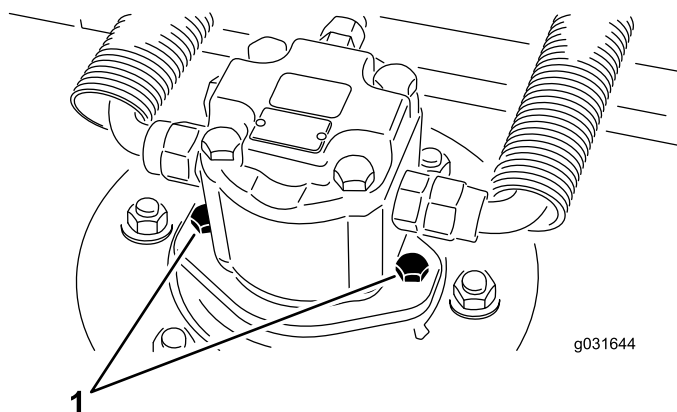

Figure 65
2. Remove the hydraulic-motor-mounting screws and disconnect and remove the hydraulic motor from the deck (Figure 65).
4. Using the hydraulic-motor-mounting screws, install the hydraulic motor to the deck (Figure 65).